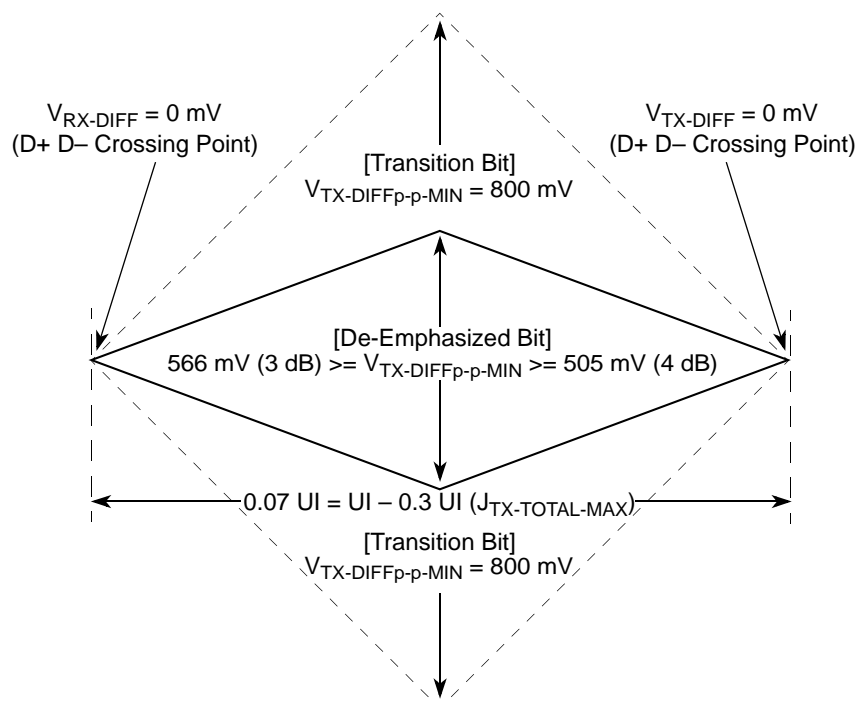
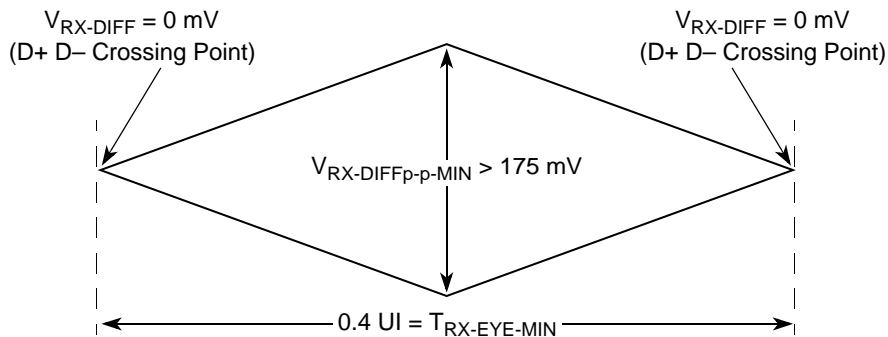
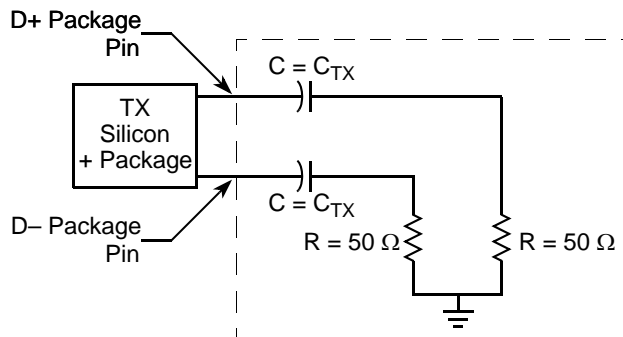

Figure 48. Minimum Transmitter Timing and Voltage Output Compliance Specifications
Figure 49. Minimum Receiver Eye Timing and Voltage Compliance Specification
Figure 50. Compliance Test/Measurement Load
2. Specified at the measurement point into a timing and voltage compliance test load as shown in Figure 50 and measured over any 250 consecutive TX UIs. (Also see the transmitter compliance eye diagram shown in Figure 48.)
4. The transmitter input impedance shall result in a differential return loss greater than or equal to 12 dB and a common mode return loss greater than or equal to 6 dB over a frequency range of 50 MHz to 1.25 GHz. This input impedance requirement applies to all valid input levels. The reference impedance for return loss measurements is 50 Ω to ground for both the D+ and D– line (that is, as measured by a vector network analyzer with 50- Ω probes—see Figure 50). Note that the series capacitors C_{TX} is optional for the return loss measurement.
5. Measured between 20%–80% at transmitter package pins into a test load as shown in Figure 50 for both $V_{\text{TX-D+}}$ and $V_{\text{TX-D-}}$.
The TX eye diagram in Figure 48 is specified using the passive compliance/test measurement load (see Figure 50) in place of any real PCI Express interconnect +RX component.
2. Specified at the measurement point and measured over any 250 consecutive UIs. The test load in Figure 50 must be used as the RX device when taking measurements (also see the receiver compliance eye diagram shown in Figure 49). If the clocks to the RX and TX are not derived from the same reference clock, the TX UI recovered from 3500 consecutive UI must be used as a reference for the eye diagram.
4. The receiver input impedance shall result in a differential return loss greater than or equal to 15 dB with the D+ line biased to 300 mV and the D– line biased to –300 mV and a common mode return loss greater than or equal to 6 dB (no bias required) over a frequency range of 50 MHz to 1.25 GHz. This input impedance requirement applies to all valid input levels. The reference impedance for return loss measurements for is 50 Ω to ground for both the D+ and D– line (that is, as measured by a vector network analyzer with 50- Ω probes—see Figure 50). Note: that the series capacitors CTX is optional for the return loss measurement.
The RX eye diagram in Figure 49 is specified using the passive compliance/test measurement load (see Figure 50) in place of any real PCI Express RX component.
Note: In general, the minimum receiver eye diagram measured with the compliance/test measurement load (see Figure 50) is larger than the minimum receiver eye diagram measured over a range of systems at the input receiver of any real PCI Express component. The degraded eye diagram at the input receiver is due to traces internal to the package as well as silicon parasitic characteristics which cause the real PCI Express component to vary in impedance from the compliance/test measurement load. The input receiver eye diagram is implementation specific and is not specified. RX component designer must provide additional margin to adequately compensate for the degraded minimum receiver eye diagram (shown in Figure 49) expected at the input receiver based on some adequate combination of system simulations and the return loss measured looking into the RX package and silicon. The RX eye diagram must be aligned in time using the jitter median to locate the center of the eye diagram.
The reference impedance for return loss measurements is 50. to ground for both the D+ and D- line (that is, as measured by a vector network analyzer with 50-Ω probes—see Figure 50). Note that the series capacitors, CTX, are optional for the return loss measurement.
The AC timing and voltage parameters must be verified at the measurement point, as specified within 0.2 inches of the package pins, into a test/measurement load shown in Figure 50.